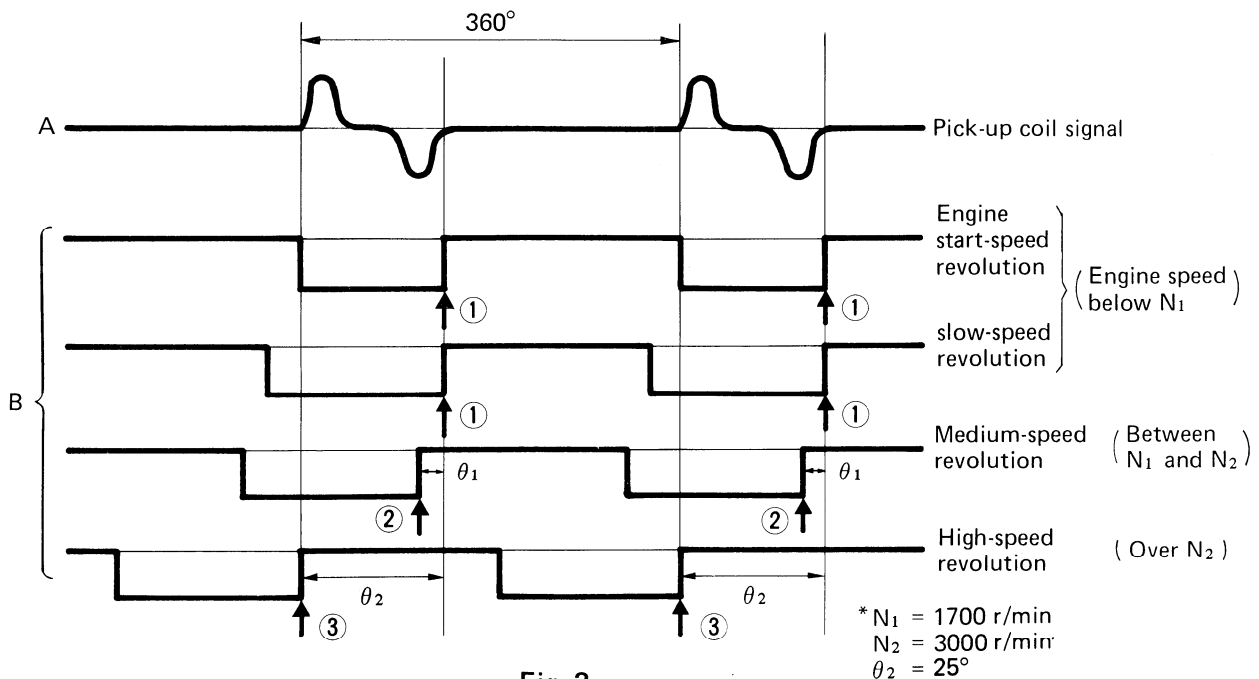

Fig. 2
When the Magneto tip is rotated in the system block diagram above, the signal "A" is generated in the pick-up coil. The thus-generated signal will be converted to the signal waveform "B" inside of the ignitor unit and ignition timing is controlled in response to the engine speed as shown in Fig. 2. That is, timing controlled in the ignitor unit becomes ① when the engine speed is lower than N_1 , and it becomes ② when the engine speed is $N_1 \sim N_2$. The advanced angle when ignited with ② is θ_1 . When higher than N_2 , timing is ③, and the timing does not advance higher than the above. The maximum advanced angle is θ_2 .